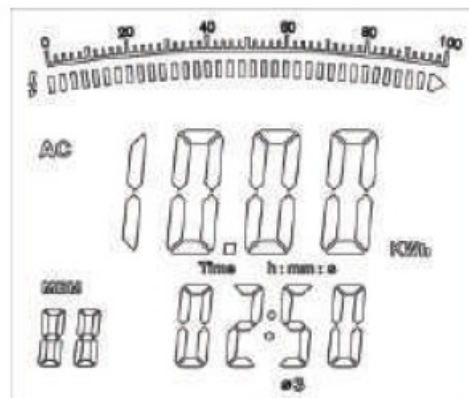

Figure 21
- Press SEL to choose one of the three phases, see figure 21.